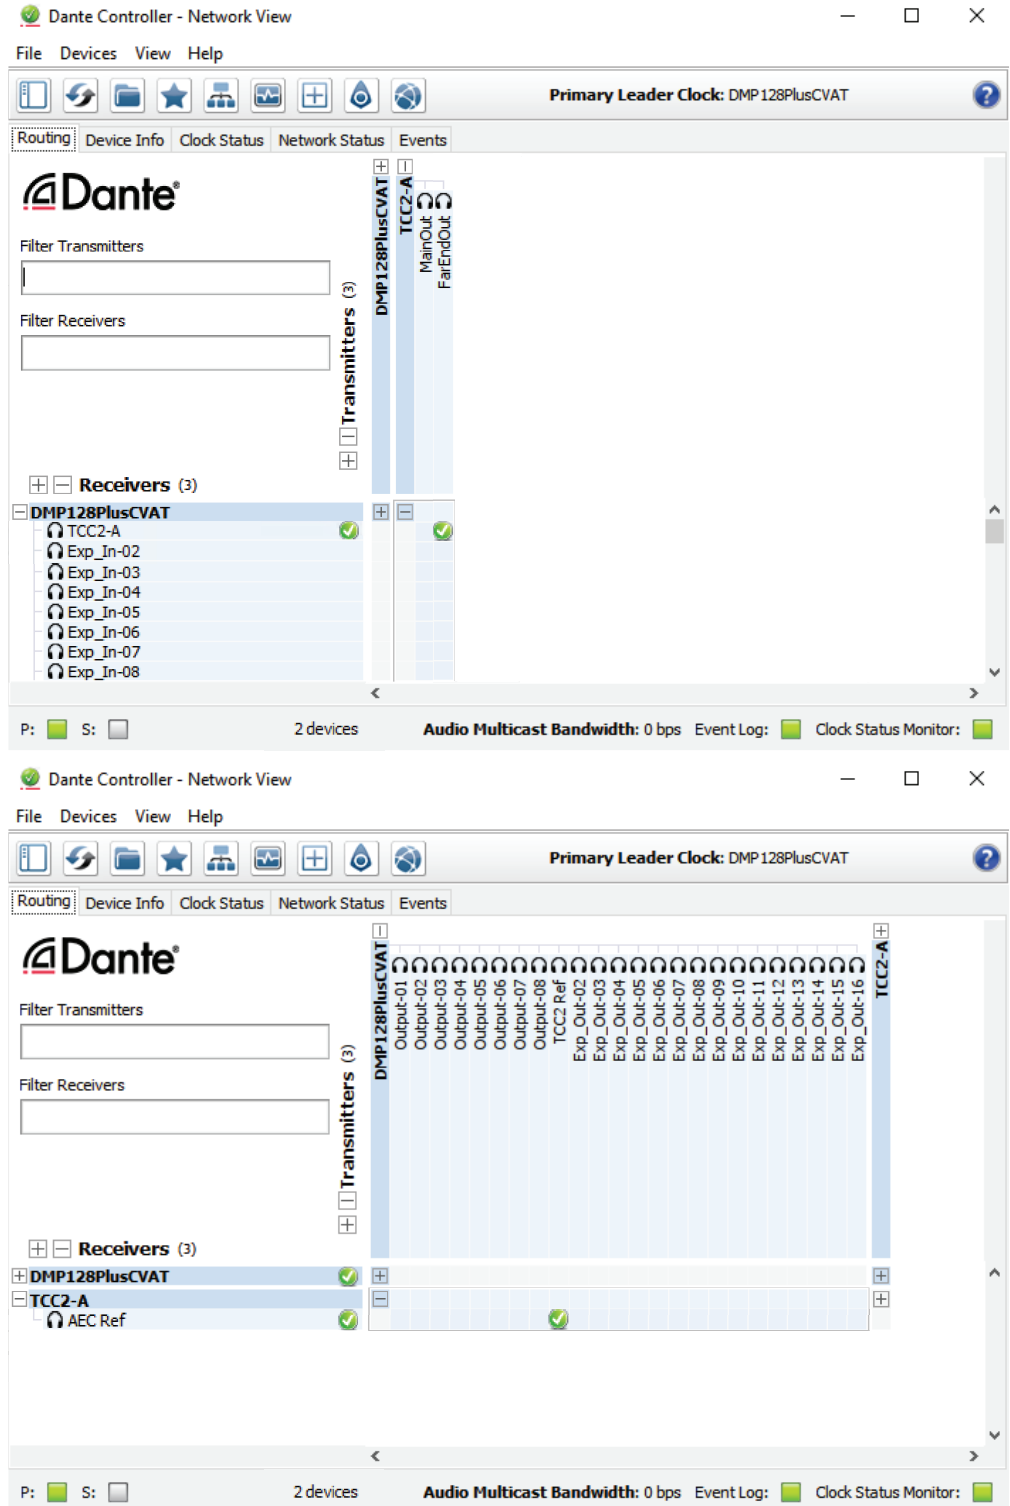

Figure 13. Network View Screen
10. To show the transmitters of a Dante device, click the **+** box next to the desired device in the **Dante Transmitters** panel, such as TCC2-A (see figure 13 on page 9). The **+** changes to a **-** sign when the device expands.